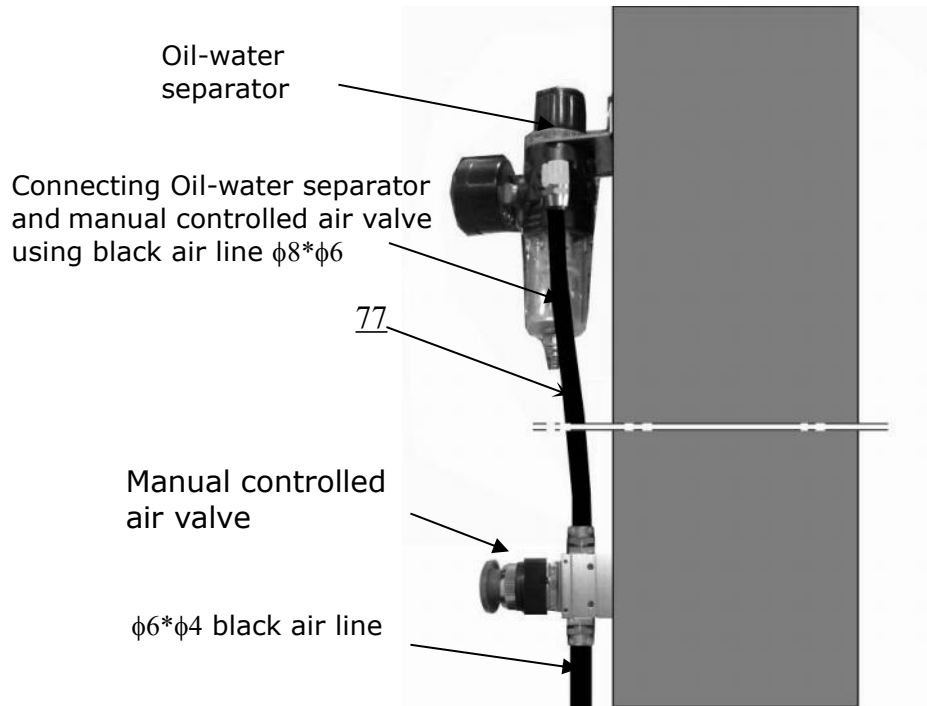

Fig. 33
5. Install oil-water separator and manual control air valve. (see **Fig.33**)